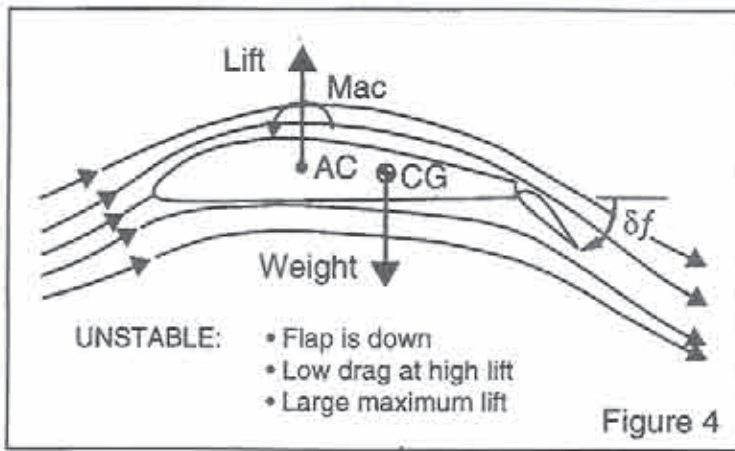

Figure 4
An alternate method of solving "the elevator problem" is shown in Figure 4. In this case the CG is placed behind the aerodynamic center (AC). This makes for an unstable aircraft which cannot be flown for a sustained period by a human pilot, but otherwise solves the elevator problem, as well as making for a more efficient airplane. As Hans-Jürgen stated, an unstable airplane requires computer control. This is the route The Palo Alto Shipping Co. chose in order to achieve their goal.³